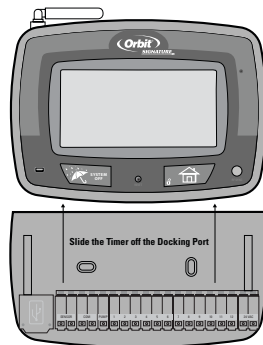

Figure 5: Mounting the Docking Port
- Slide the timer off the docking port. (See Figure 5)